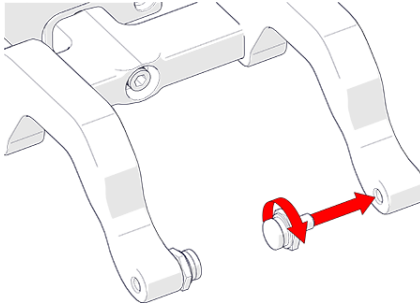

Figure 3-36 Pivot buttons
- ◆ Use the supplied 3/8" wrench (see Figure i-3 on page 24) to remove and install pivot buttons (see Figure 3-36 on page 65).